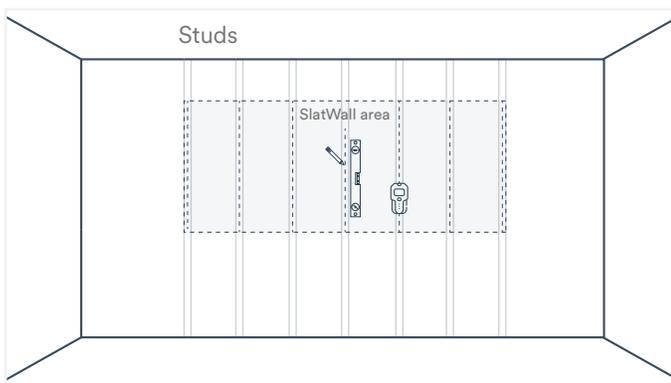
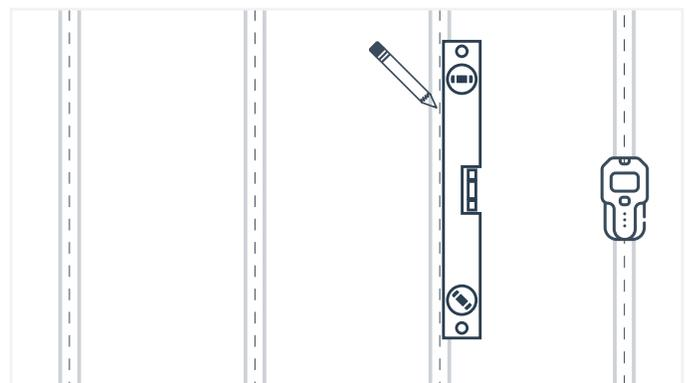

Fig. 25
Fig. 26
2. Inside the SlatWall installation area, locate and mark each wall stud using a stud finder (Fig. 25). Use a level and a pencil to mark each stud from the top to the bottom of your installation area, ensuring each line is plumb (Fig. 26).